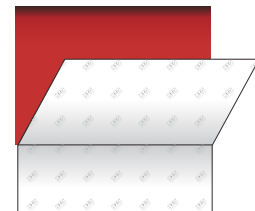

Figure05
- › Remove the top hinge and continue removing the liner, depending on the surface pattern (cf. paragraphs below). (FIG. 05)